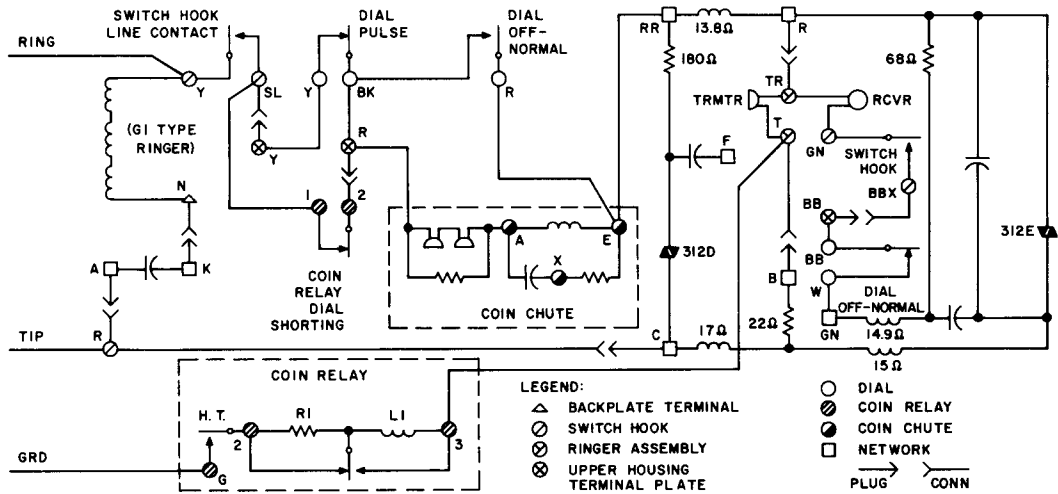

Fig. 9 - 236G Coin Telephone
- Fig. 9 — 236G Coin Telephone